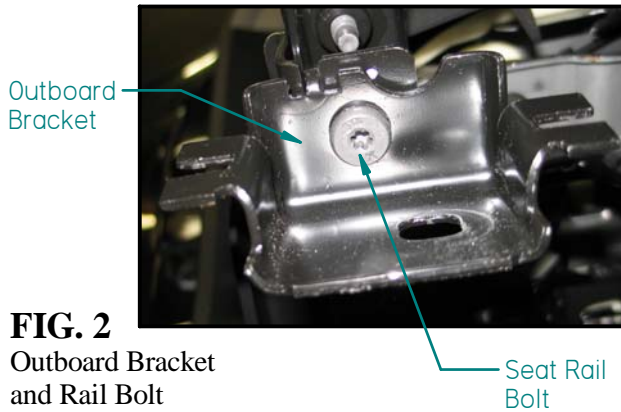

FIG. 2
4. Remove the rail bolt (see FIG. 2), using a T27 Torx Bit, and subsequently the bracket from each of the outboard and inboard seat rails.